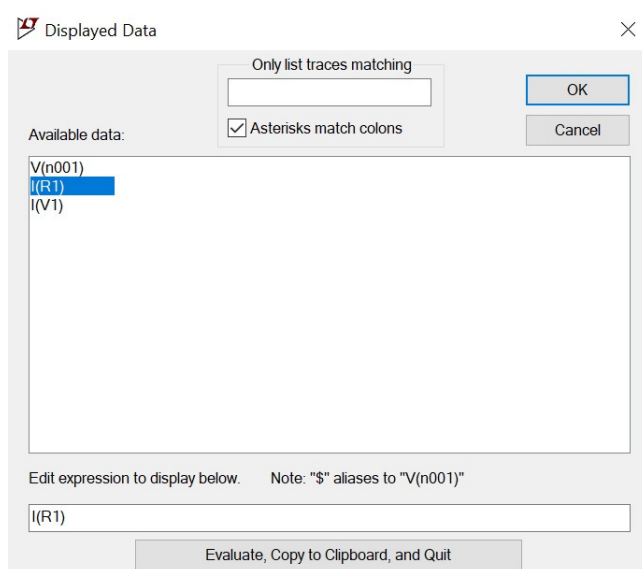

Figure 4: 'Displayed Data' dialogue
- 23) Under **Available data**, click **I(R1)**. The **Displayed Data** dialogue should now look as displayed in Figure 4 below.